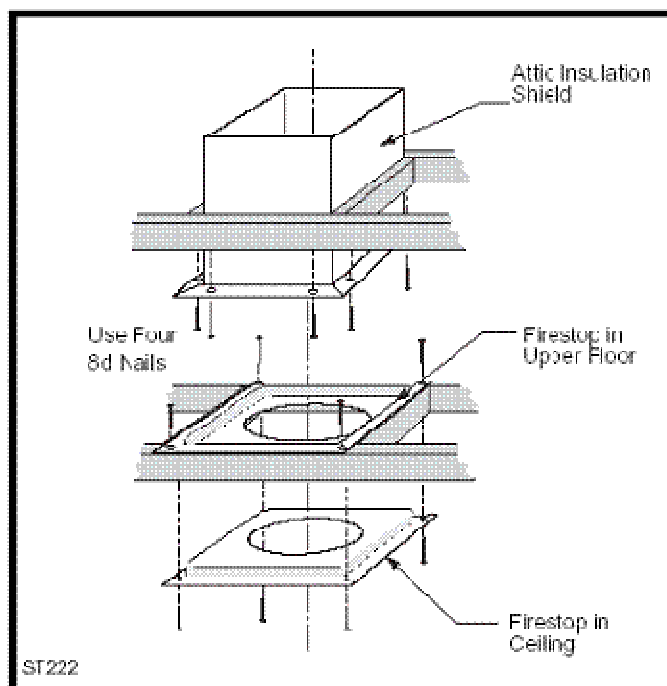

Fig. 36 Install firestops and attic insulation shield.
Make certain the vent system conforms to all other requirements for vertical termination as specified. This installation will require you to first determine the roof pitch and use the appropriate vent components. Refer to Figures 36 and 37.
6. Install firestop(s) and Attic Insulation Shield as needed. (Fig. 36) If there is a room above ceiling level, a firestop must be installed on both the bottom and top sides of the ceiling joists. If an attic is above ceiling level, an attic insulation shield must be installed.